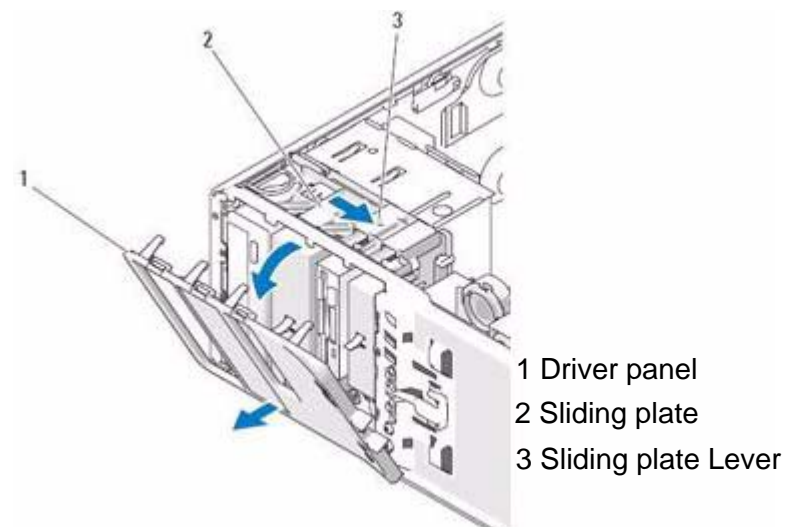

Figure 16:
8. Pivot the Drive Panel outward and lift it from its side hinges. When you are done, put the Drive Panel in a safe place Figure 16 on page 22.